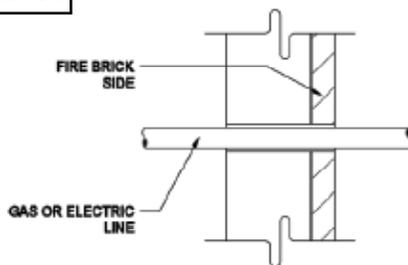

FIGURE 19
1. Combustion Air Inlet: Combustion air inlet kits though not required by Isokern may help improve fireplace operation in homes tightly sealed and with other ventilating appliances installed (Figures 19 & 20). **Check local codes for combustion air inlet requirements.**
**CAUTION:** All access holes must be grouted with mortar – after line or conduit feed - to seal any gaps or cracks around line feed conduits (Figure 19).